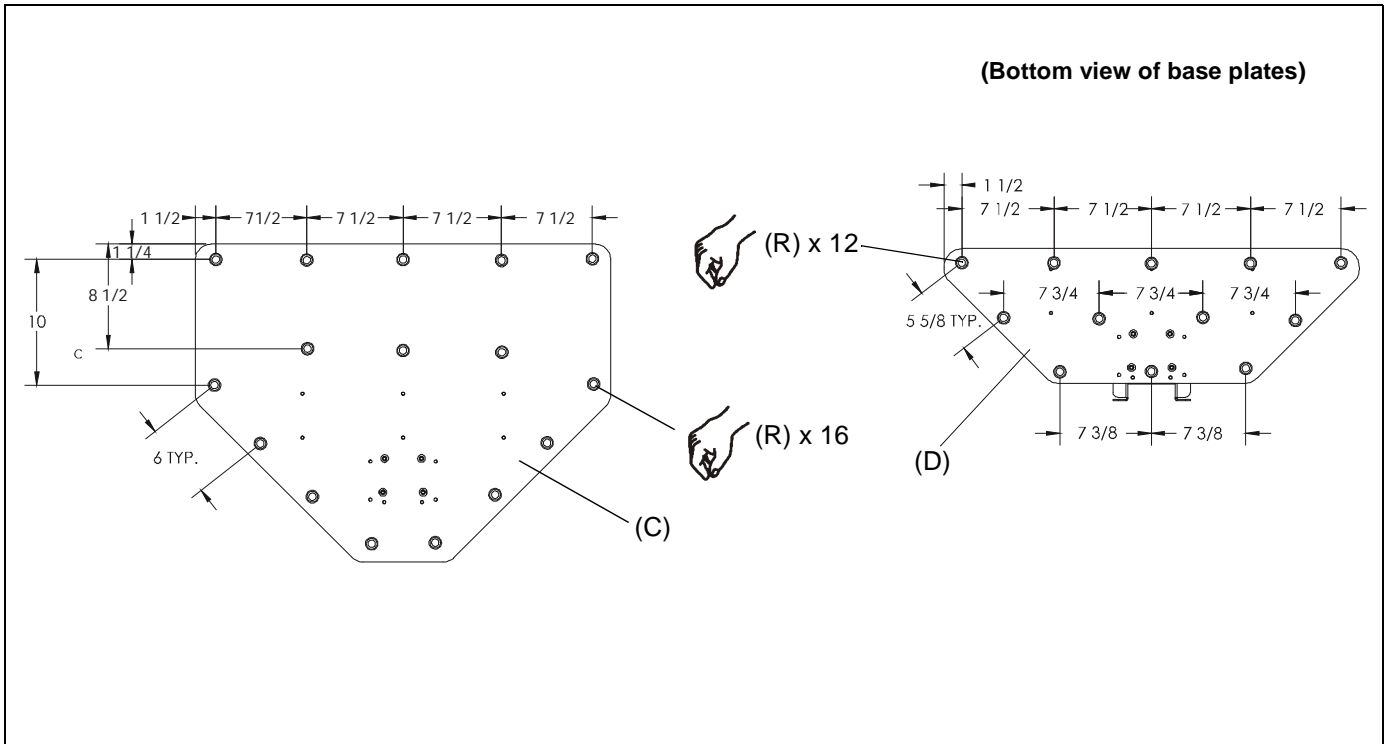

Figure 4
1. Slowly tip mount until column assembly (A) can be gently placed on the ground in order to expose the underside of the base plate (C or D).
2. Install feet (R) on underside of base plate (C or D) approximately as shown using the provided dimensions. (See Figure 4)